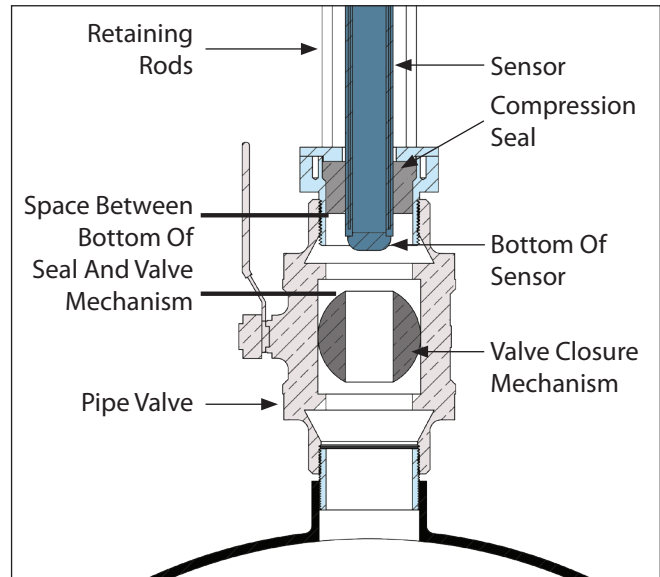

Figure 53. Cross-Section Of Meter Showing Sensor Removal
10. Rotate the captive nuts on the top plate simultaneously. The sensor insertion tool is recommended. See Installation, STEP 10. This will cause the sensor to rise out of the pipe. If the line is under pressure do not remove the sensor from the compression seal completely. Only raise the sensor until it is clear of the valve, but still below the compression seal. See Figure 53. Once the sensor has cleared the valve mechanism, the valve can then be closed. Do not attempt to force the valve closed while the sensor is still passing through the valve as permanent damage to the sensor can occur.